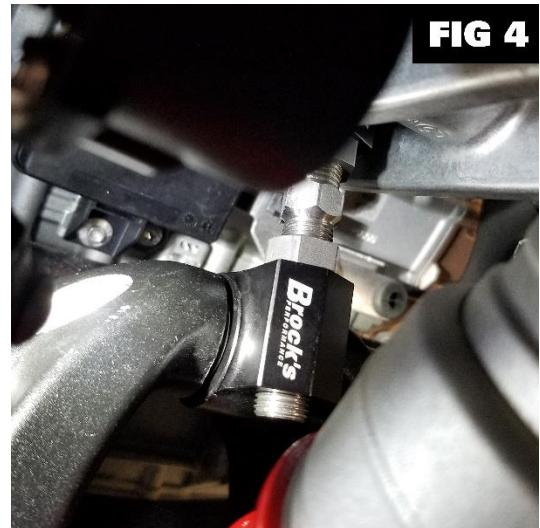

FIG 4
23. Note: Shorten center to center of link to lower bike. **(FIG 4)**